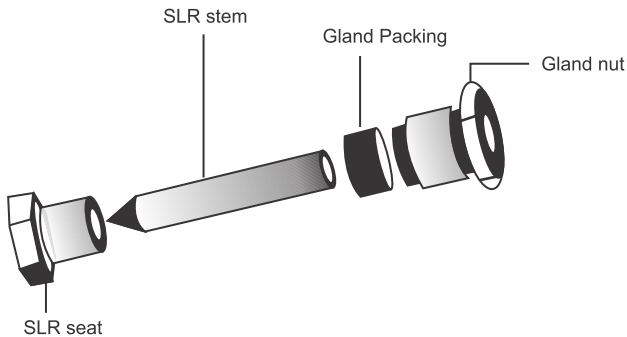

Figure 9: SLR assembly
7.5 Procedure to fit the Steam Lock Release (SLR) assembly: (Refer to Figure 9)
2. Remove the SLR gasket (not shown in the figure 9).